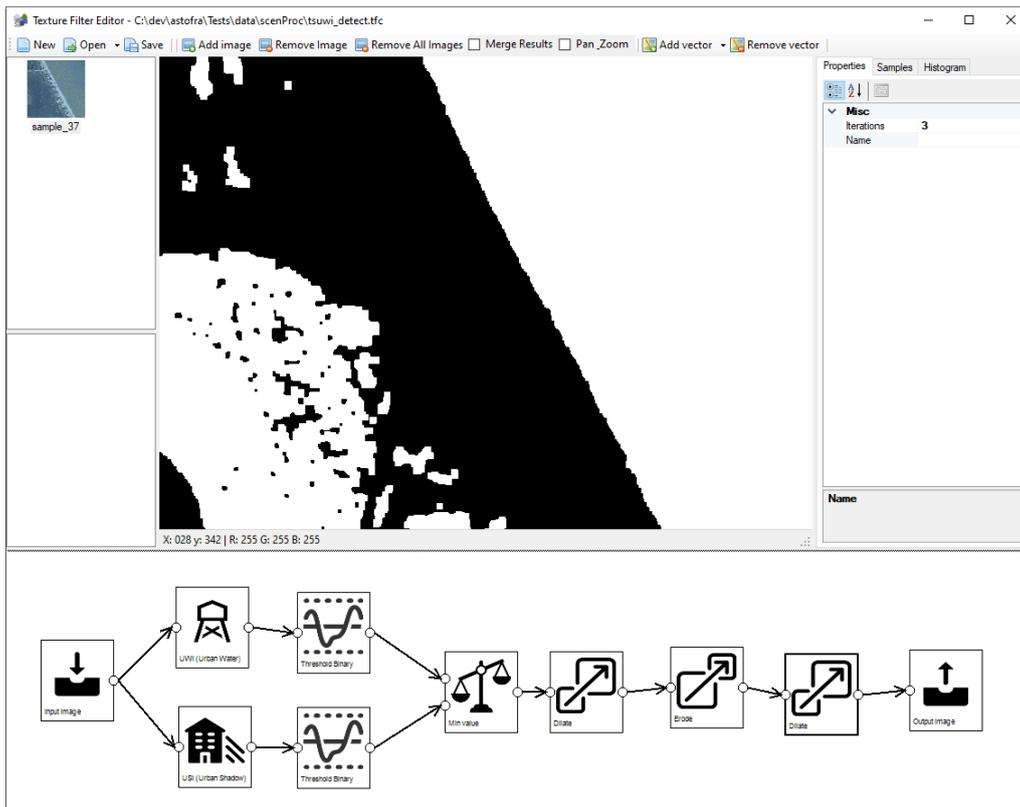

Figure 6.47: Eroding to restore the correct water size
9. Erode step with 3 iteration to shrink the water back to the normal size, see Figure 6.47.